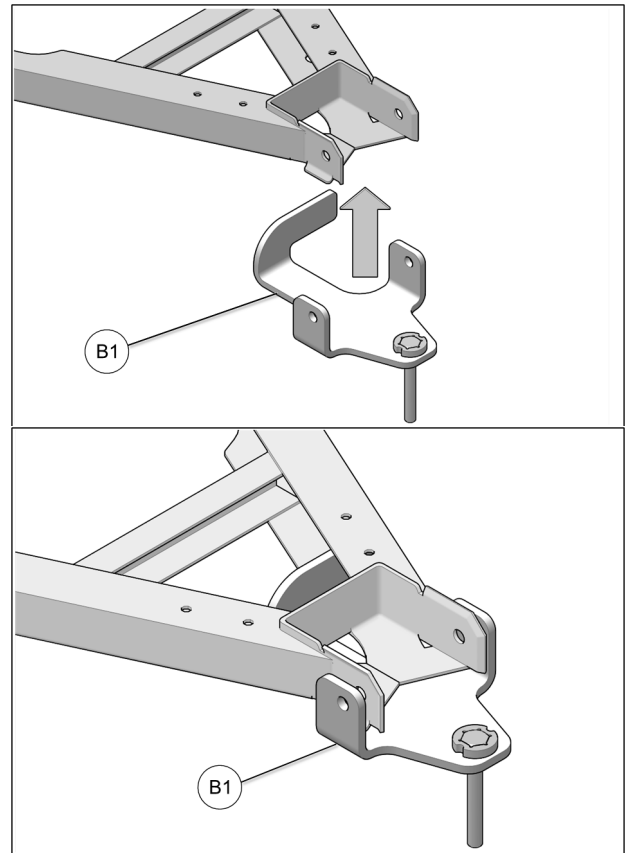

Fig. 7
6. Install the anchor bracket (**B1**) under lower suspension arm. Make sure to hook the bracket's back end inside the a-arm. See Fig. 7